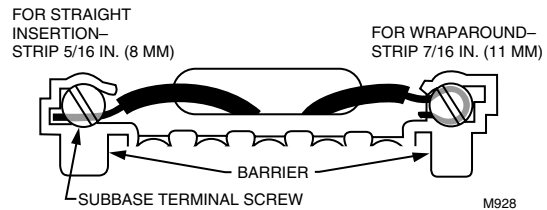

Fig. 7. Barrier configuration.
Level the subbase using a spirit level, see Fig. 7, and firmly tighten subbase mounting screws. The subbase mounting holes provide for minor out-of-level adjustments.
1. Connect the system wires to the subbase as shown in the applicable diagram. A letter code is located near each terminal for identification. Typical terminal designation and wiring connections are listed in Table 5. The terminal barrier permits straight or wraparound wiring connection. See Fig. 7. The subbase can require one or more jumpers that may or may not be factory-supplied. See Fig. 8 and the wiring diagrams for specific terminals to be jumpered.